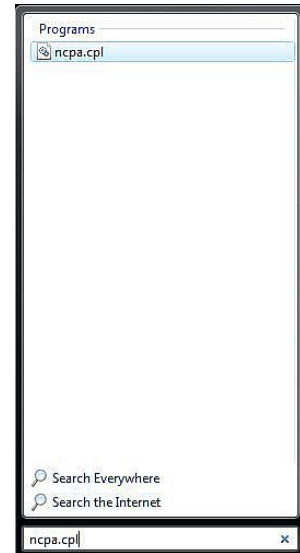

Figure 2.3a- Vista/7 Start Menu
1. Windows Vista/7 – Select the Windows Icon (Start Menu) and enter `ncpa.cpl` into the search bar and press Enter (Figure 2.3a).